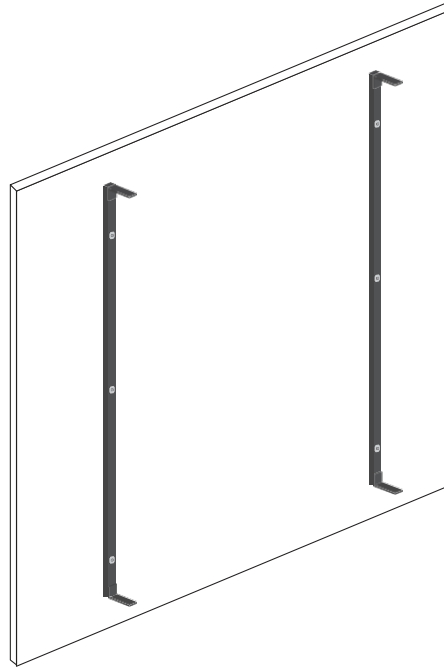

Figure 9: Attaching the Wall Boards to the Wall
7. Remove the boards from the frame and attach them to the wall using the provided hardware or other appropriate fasteners such as lag bolts, wall anchors, molly bolts, wood carriage screws, etc. (see Figure 9).